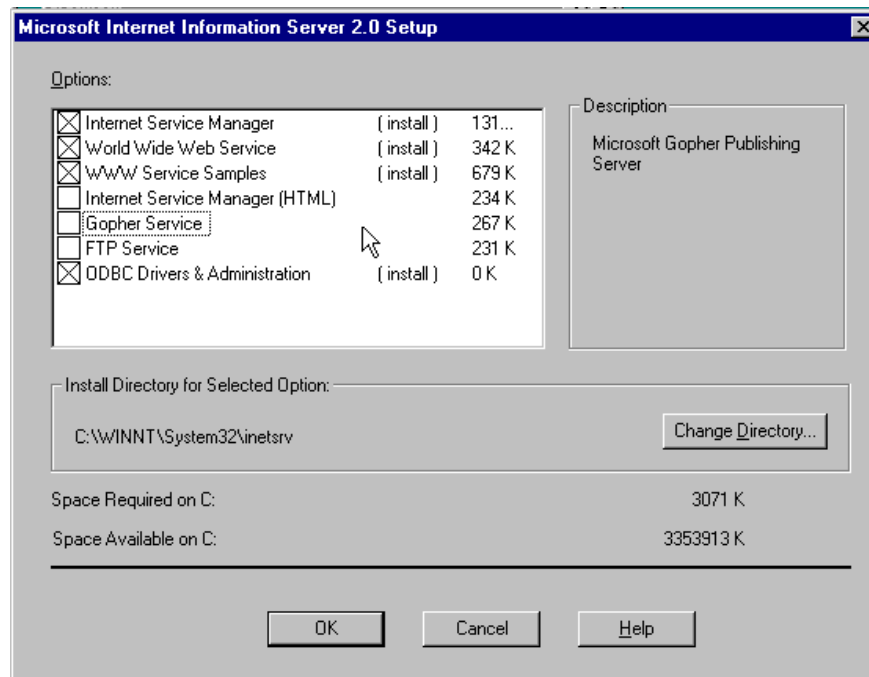

Figure 2.3. Options Window of Microsoft Internet Information Server Dialog Box
4. The **Microsoft Internet Information Server Setup** dialog box, with an **Options** window, will appear, as shown in **Figure 2.3**. In the **Options** window, be sure to click on at least the four X-boxes (**Internet Service Manager**, **World Wide Web Service**, **WWW Service Samples**, and **ODBC Drivers & Administration**). Click the **OK** button.